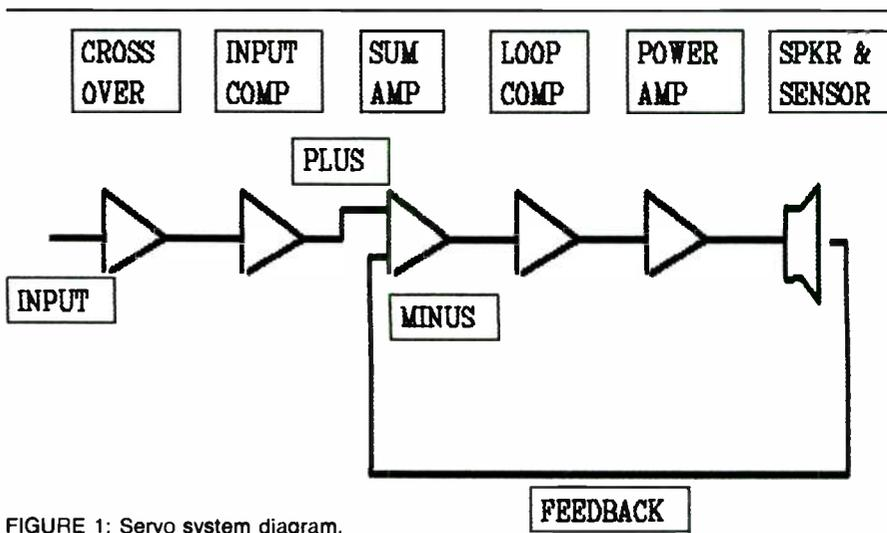
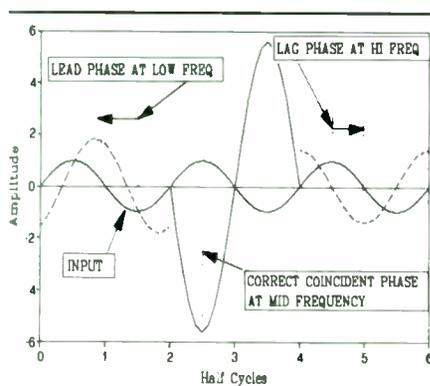

FIGURE 1: Servo system diagram.
FIGURE 3: Relationships of the lead, coincident, and lag phases.
**SERVO SYSTEM APPROACH.** A servo speaker system measures the output of the speaker and compares it to the input signal at the summing amplifier as shown in Fig. 1. Differences between the input and feedback signals are amplified to drive the speaker more like the input signal. This design approach corrects speaker overdrive and oscillations muddying the sound reproduction of open-loop speakers. It provides linear frequency
of the loop signals. Figure 1 indicates the two signals have opposite signs—180° out of phase. Figure 3 shows the correct phase relationships of the input and sensor signals at the summing amplifier. If the phase is incorrect, you must change it somewhere in the loop—usually by switching the leads at the speaker. Figure 3 also illustrates how the amplitude and phase change as frequency varies from the maximum gain (central) frequency. Once the requirements of gain and phase are satisfied, you can connect the sensor to the summing amplifier to close the loop.